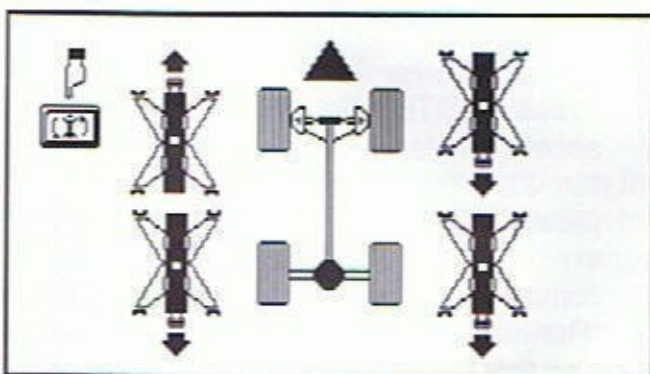

Figure 2-17
- D. The screen shown in Figure 2-17 will appear in display.